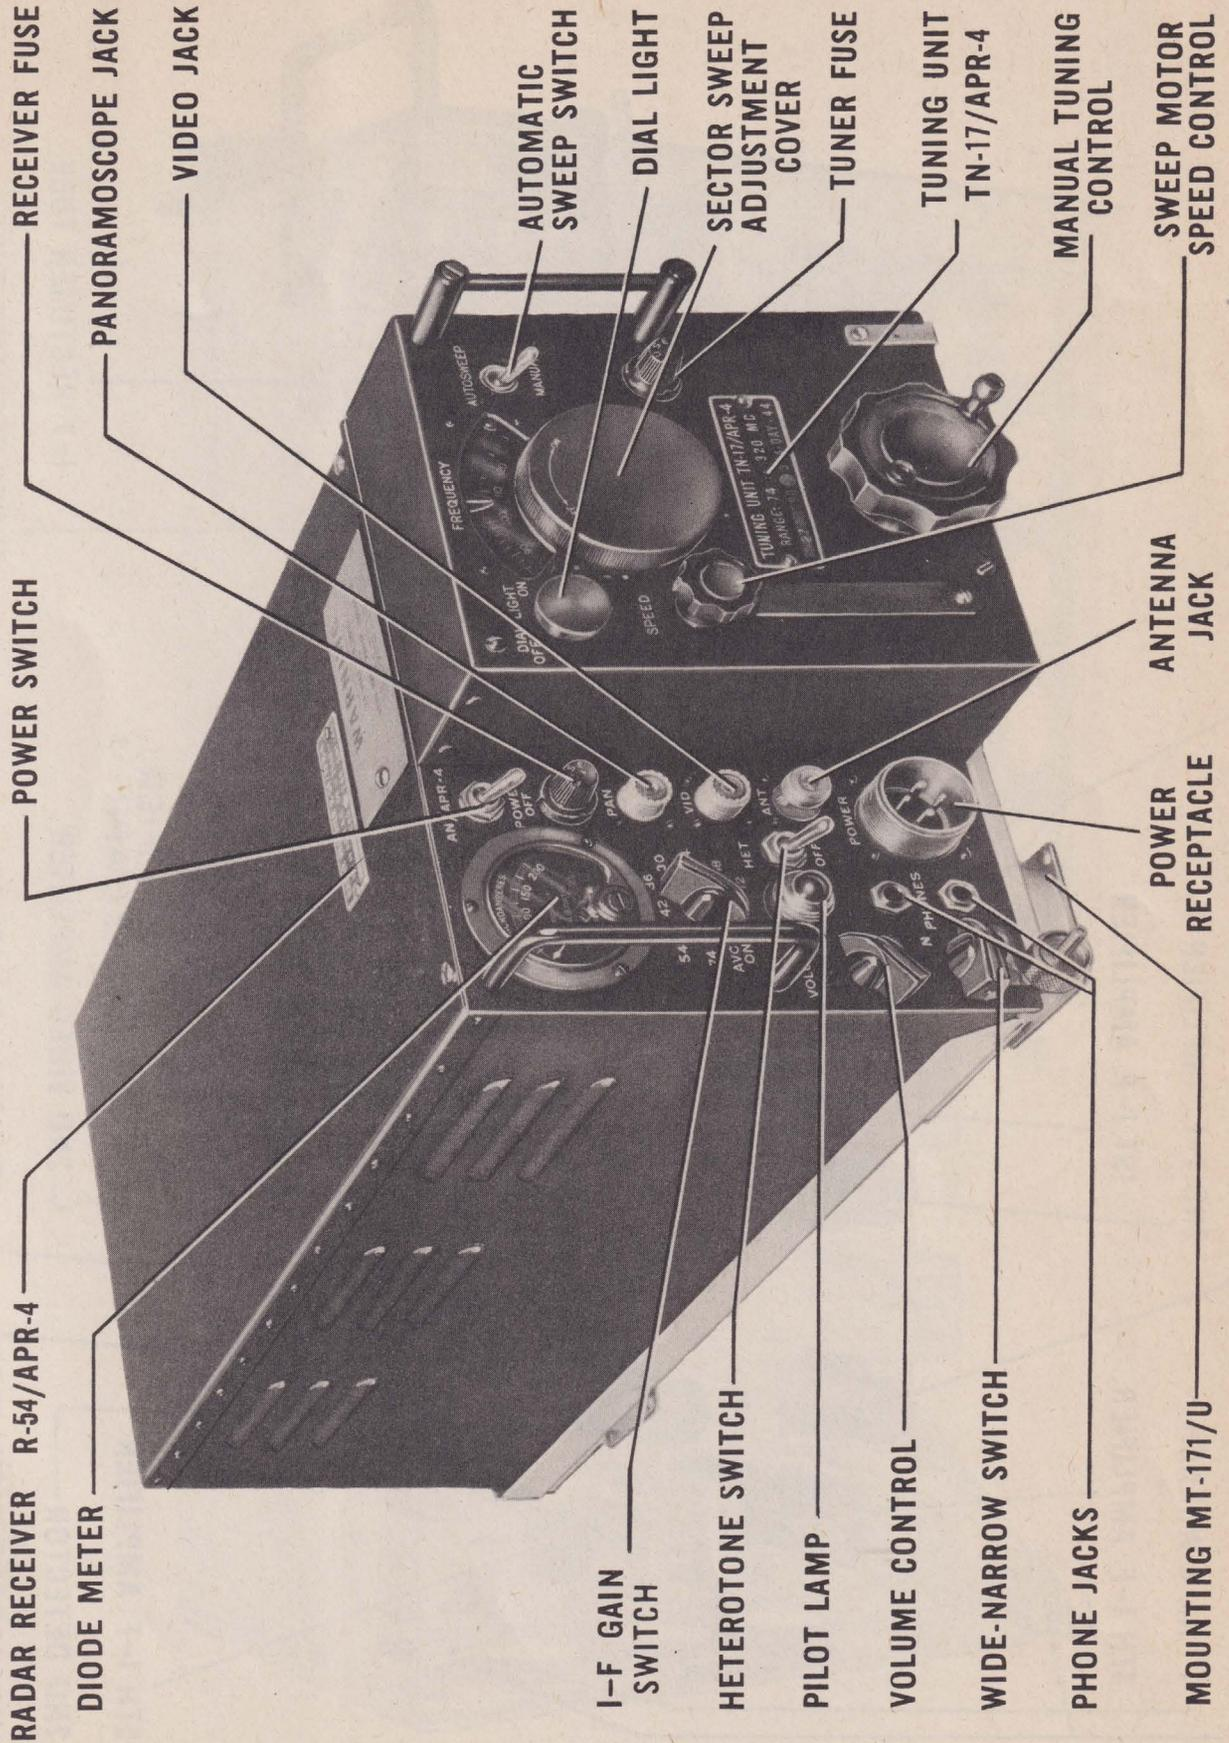

Figure 2-1. Radar Receiver R-54/APR-4 with Tuning Unit TN-17/APR-4
(1) UNPACKING.—Unpack the equipment carefully to prevent damage to the diode meter or controls.
(2) INSPECTION.—Inspect Radar Receiver R-54/APR-4 (see figs. 2-1 and 2-2) for loose tubes or damaged equipment, as follows:
(2) CASES CY-31/APR-4.—Mount Cases CY-31/APR-4 (see figs. 2-5 and 5-1) so that they are conveniently located near Radar Receiver R-54/APR-4 (see figs. 2-1 and 5-2).
(3) TUNING UNITS.—Slide the desired tuning unit (see sec. V, par. 1*b*) into position on the tracks provided in the large rectangular hole in the panel of Radar Receiver R-54/APR-4, properly engaging the plugs and jacks. Swing the right hand knurled nut on Mounting Base MT-171/U over the hold-down lug on the lower right hand corner of the tuning unit panel and tighten by hand. The receiver will then be locked in its mounting base, and the tuning unit in the receiver. Install the remaining tuning units in their cases.
(4) FAN ANTENNA.—Install Antenna Base AB-27/A, connecting to it two 53-inch lengths of Wire W-106-A. Connect a third wire, equal length of Wire W-106-A, to the two free ends. This forms
(See figure 2-1.)